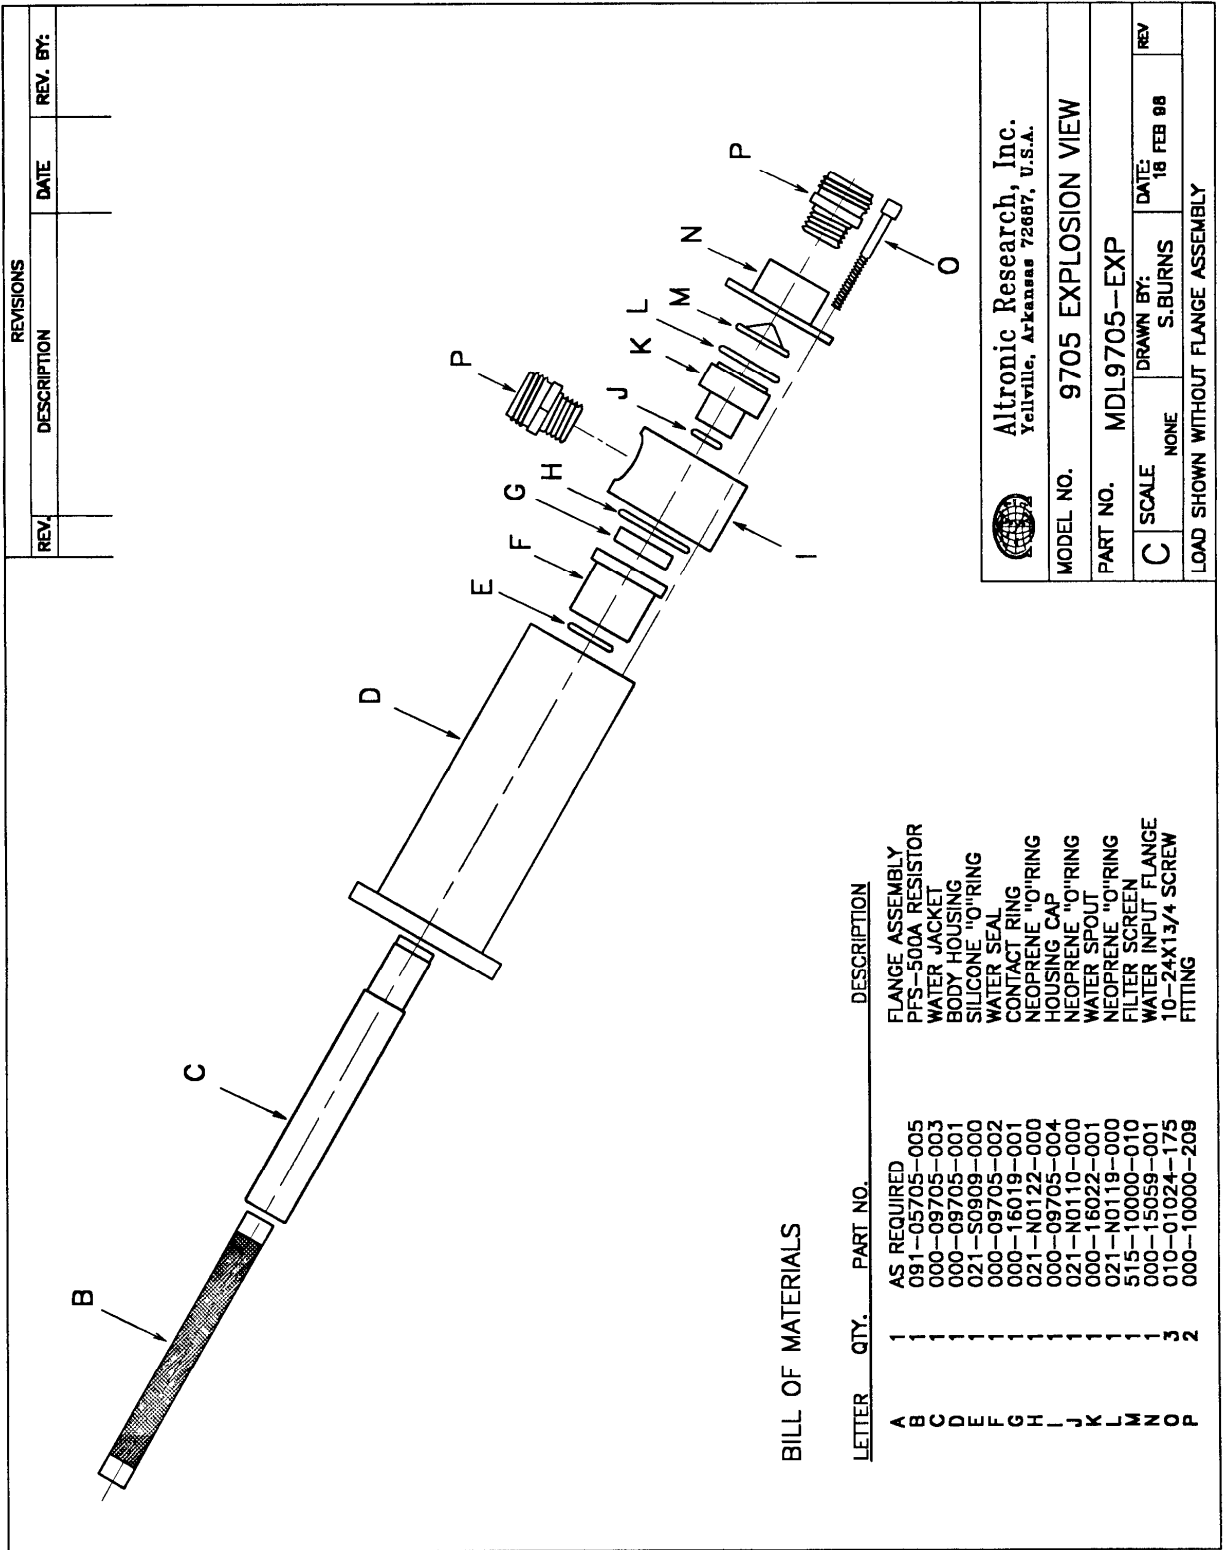
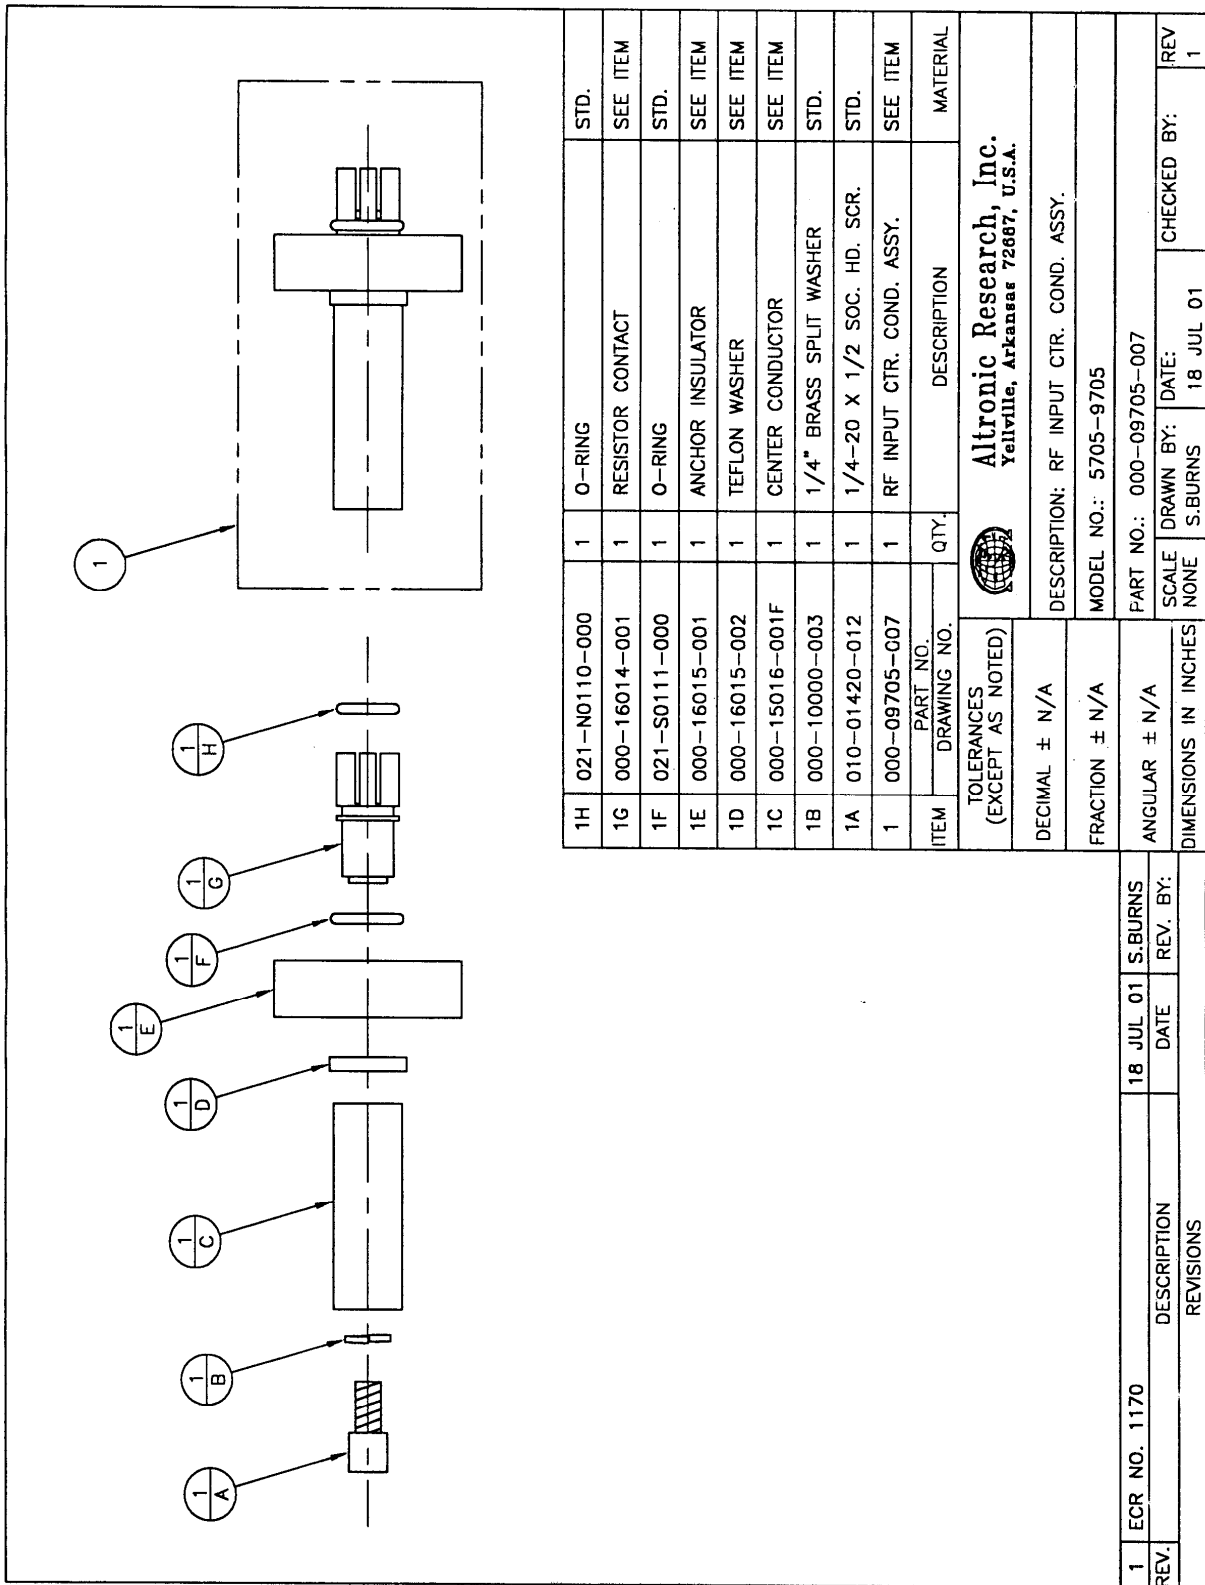

Fig. 14
Fig. 16
4. **Resistor Replacement** - (Refer to Fig. 14) To replace the resistor element, remove the three 10-24x1-3/4" cap screws (item O). Remove water input assembly (items M, N, and P). Inspect filter screen for damage, replace if eroded or torn. Remove housing cap assembly (items G, H, I, P, J, K and L). Inspect all O-rings for distortion or damage. Replace if pinched, cut, burned or no longer round in cross section. Inspect ring contact (item G) for signs of arcing or loss of silver in the area of contact with the resistor contact band. Replace if damage is noted. If resistor (item B) is not broken, grasp by the end
- 5. Removal of RF Input** - (Refer to Figure 15) To remove the RF input line adaptor flange, remove four 10-24x 3/8" socket head screws (item 2) that secure the line adaptor flange (item 1) to the load body housing (item D, Fig. 14). The RF input assembly consisting of the center conductor, anchor insulator and front resistor contact (items C, D, E, F, G, H, I and J) will normally remain in the load body. Grasp the center conductor (item 3) by hand and attempt to pull the input assembly out of the load body using slight side to side motion while pulling. If strong resistance is encountered, it may be necessary to chill the load to allow the anchor insulator to shrink away from the load housing. This can be done by placing the load in a freezer, or packing the load in ice for 20 to 30 minutes. Once the anchor insulator has shrunk away from the load housing, the RF input assembly should be easily removed. At this point of disassembly, all components of the load can be inspected or replaced as needed. Reassembly should be done in the reverse order of sequence. See Figure 16 for individual component identification.